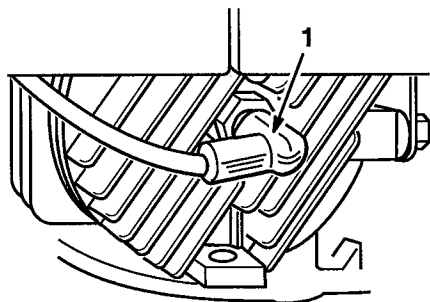

Figure 38
1. Stop engine and disconnect spark plug wire (Fig. 38) before installing or removing grass chute.
1. Stop engine and disconnect spark plug wire (Fig. 38) before installing or removing mulch plate.